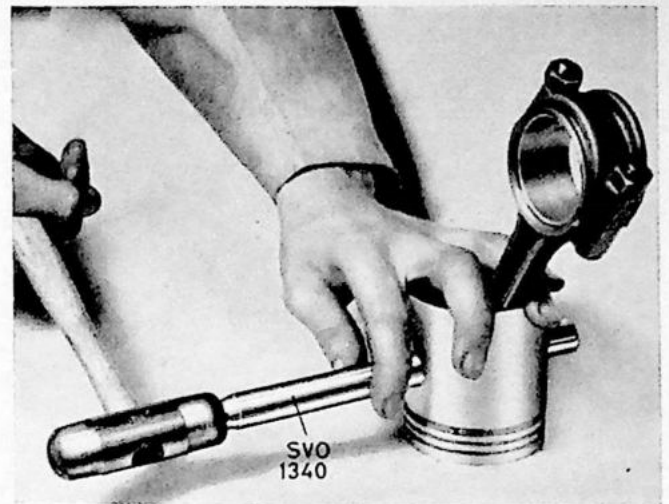

Fig. 44.
19. Dismantle connecting rods from pistons by driving out piston pins with tool SVO 1340 A. Fig. 44.